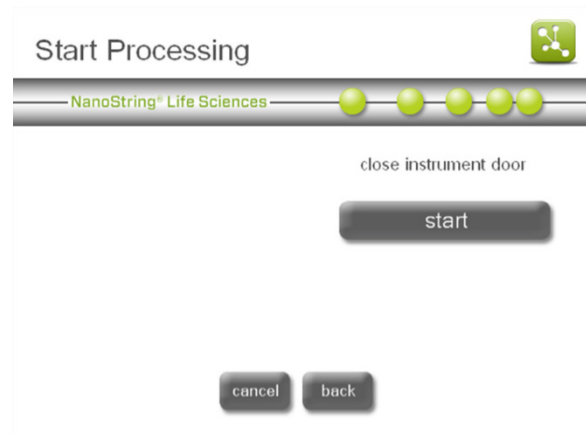

Figure 33: The 'Start Processing' screen.
- The 'Start Processing' screen will appear (Figure 33). Press **start** when ready to begin processing.